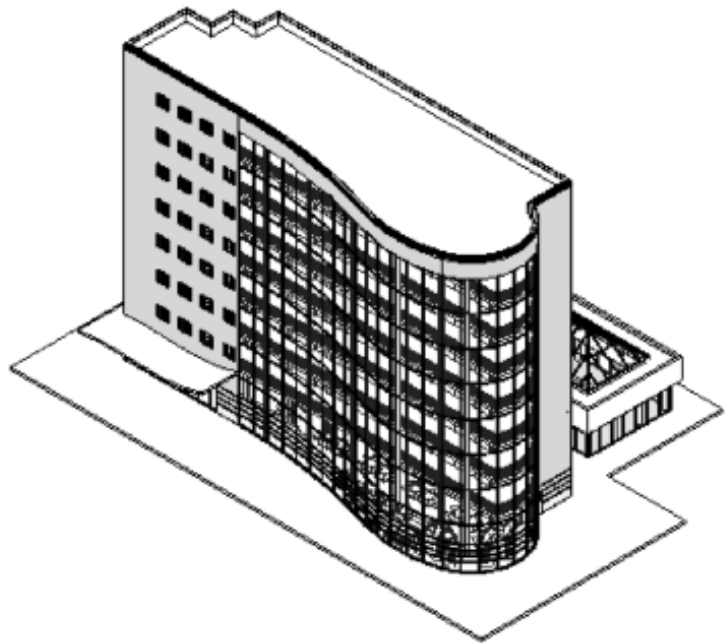

Figure 1–55
- In the Quick Access Toolbar, click  (Default 3D View) to open the default 3D view, as shown in Figure 1–55.